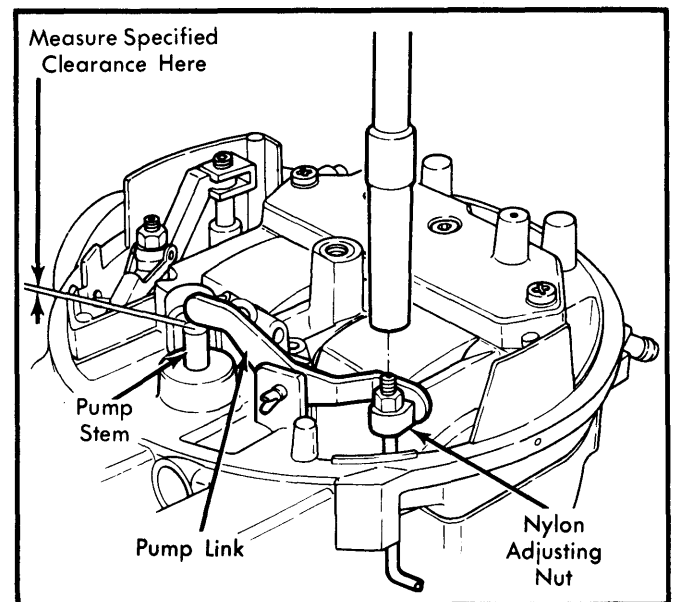

Fig. 1 Adjusting Accelerator Pump Lever Lash
1) Make sure curb idle speed is correctly adjusted. Measure clearance between accelerator pump stem and pump operating link with a feeler gauge. See Fig. 1.